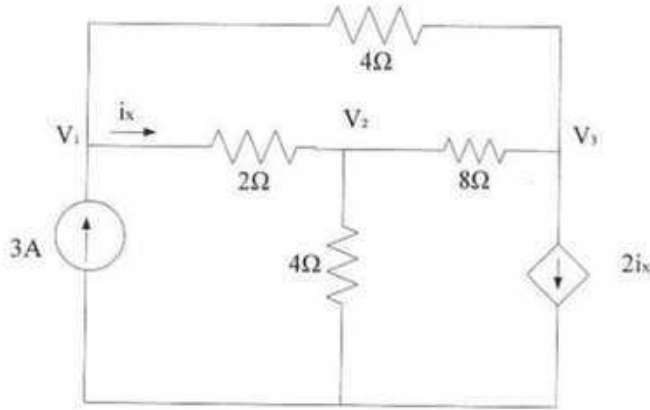

Figure 7(a)
b. Find  $R_{ab}$  for the circuit in Figure 7(b)